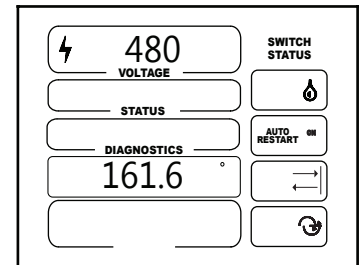

Figure 31-2
3. From the main screen, press the **i** button six times to view the current position. Record the current position displayed at the bottom of the screen to the nearest tenth of a degree as position A. See figure 31-2.